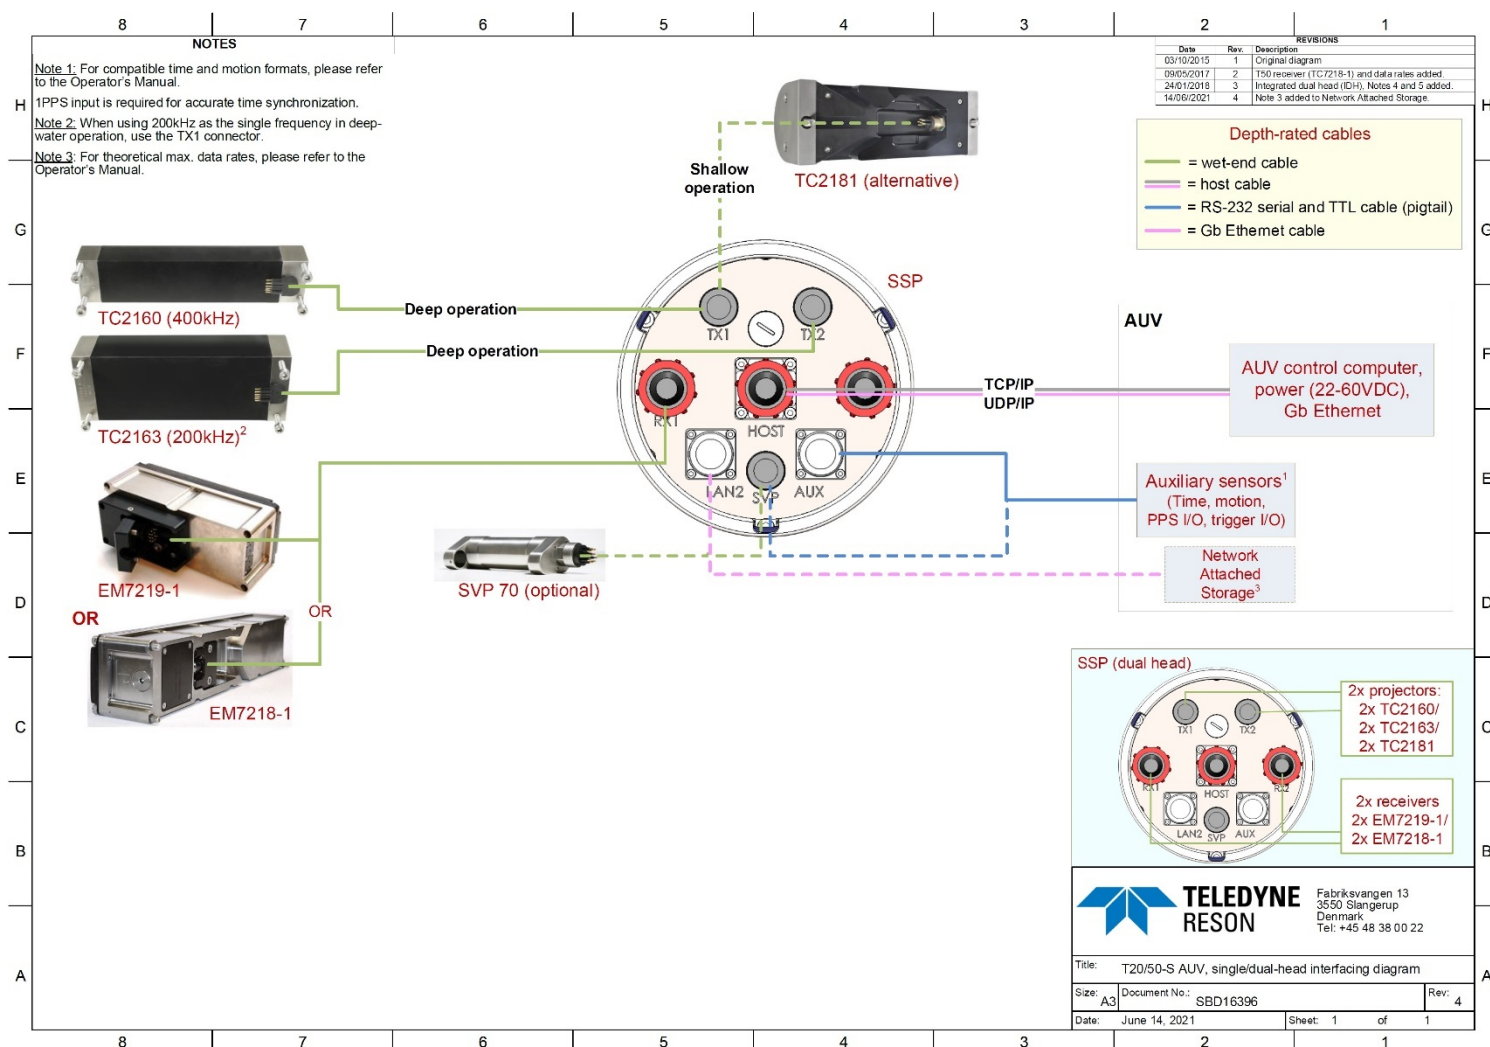

Figure 62: T20/50-S AUV, single/dual-head Interfacing Diagram
- *Figure 62: T20/50-S AUV, single/dual-head Interfacing Diagram*